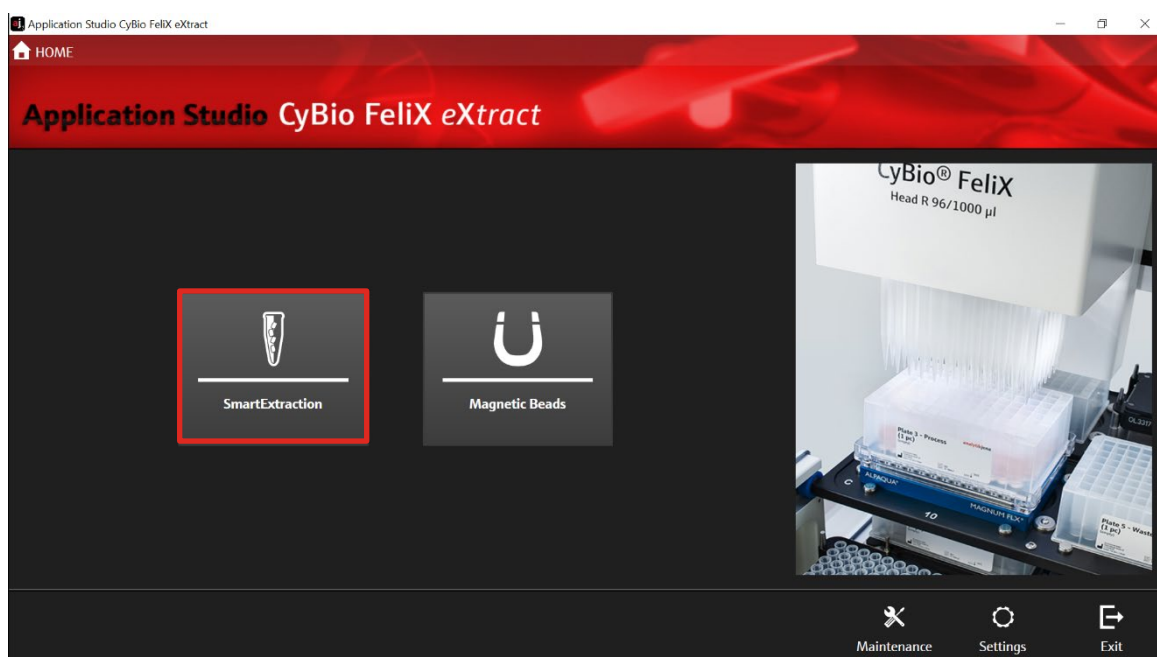

Figure 11: Homescreen of AppStudio FeliX *eXtract*. Selection of extraction technology: SmartExtraction.
5. Select the extraction technology “SmartExtraction” (→ see **Figure 11**).